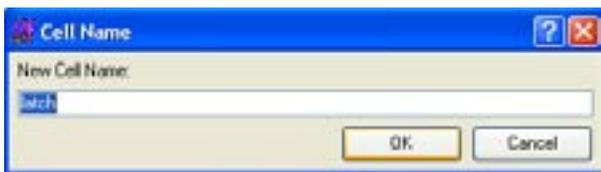

Figure 6. Assigning the generated cell a meaningful name in current project.
10. Note that the default cell name “top” can be changed at will. Before creating the circuit layout, in the netlist panel, right click “top” and select ‘Map’ in pop-out menu, key in any preferred cell name (e.g. “latch”). If the user would just like to create this circuit within the current working directory, there is no need to key in the library name since the default parent project will be the current working directory. See Figure 6.